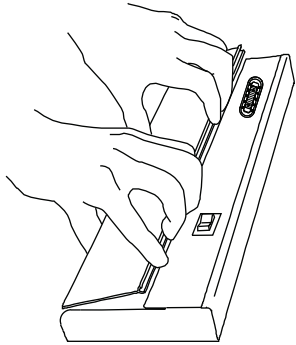

Fig.1
1. CAREFULLY REMOVE DIFFUSER BY SQUEEZING (BACK) EDGE WITH FOREFINGERS WHILE HOLDING FRONT SIDE WITH THUMBS. SEE FIG 1.